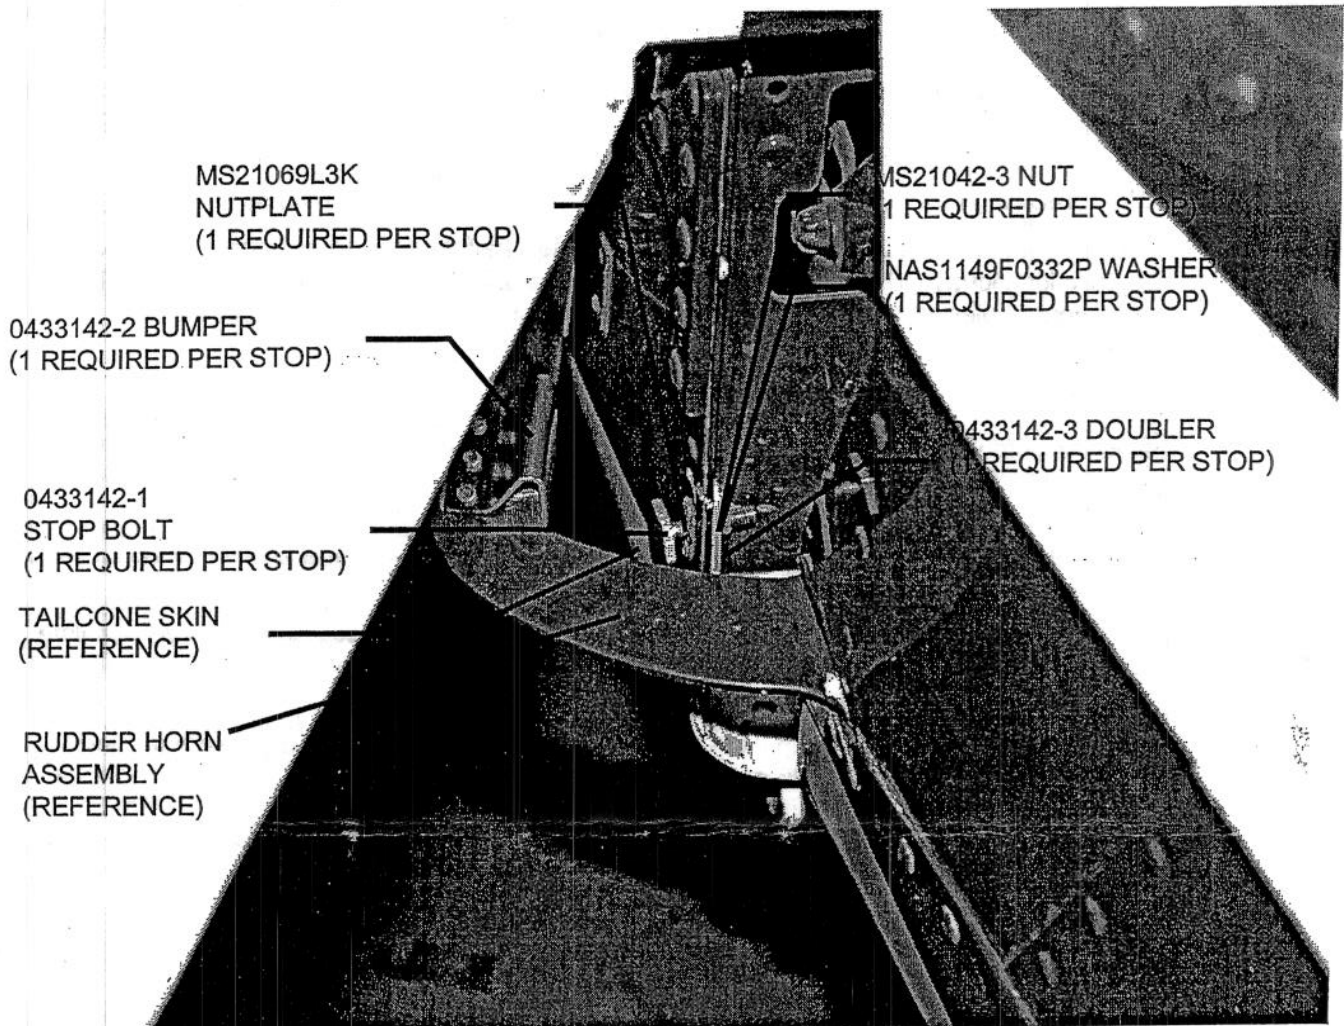

FIGURE 1.
2. (Refer to Figure 1.) Remove rivets attaching rudder stop bumper to rudder horn assembly. Remove rudder stop bumper.
9. (Refer to Figures 1 and 2.) Test fit replacement MS21069L3K Nutplate and 0433142-3 Doubler. Clamp in place with temporary fastener.
12. (Refer to Figures 1 and 2.) Counterbore approximately half the thickness of the 0433142-3 Doubler in the two locations marked in step 10. using a Number 21 (0.159 inch diameter) drill bit. The counterbored holes allow the doubler to nest over the nutplate rivet butts and to seat flush with the inboard flange of the tailcone bulkhead. Do not drill through doubler.
15. (Refer to Figures 1, 2, and 3.) Test fit 0433142-3 Doubler by placing counterbores over nutplate rivet butts. Pencil mark new rivet hole locations onto doubler. Remove doubler and verify 0.15 inch minimum edge distance for new holes.
16. (Refer to Figures 1 and 2.) Clamp 0433142-3 Doubler in place and match drill rivet holes into doubler using a Number 40 (0.098 inch diameter) drill bit. Remove doubler and deburr all holes.
17. (Refer to Figures 1 and 2.) Install 0433142-3 Doubler using two MS20470AD3-6A Rivets.
18. (Refer to Figure 1 and 2.) Install 0433142-1 Stop Bolt in nutplate. Install NAS1149F0332P Washer and MS21042-3 Nut onto inboard end of stop bolt.